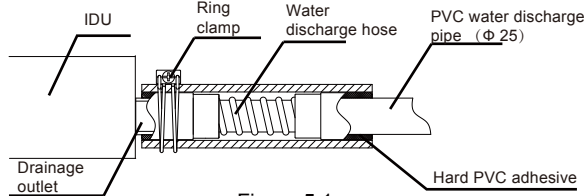

Figure 5.1
3. Use the insulation casing for water discharge piping (accessory) to bundle the water suction and discharge pipes of the indoor unit (especially the indoor portion), and use the tie for the water discharge piping (accessory) to bind them firmly to make sure air does not enter and condense. See Figure 5.1.